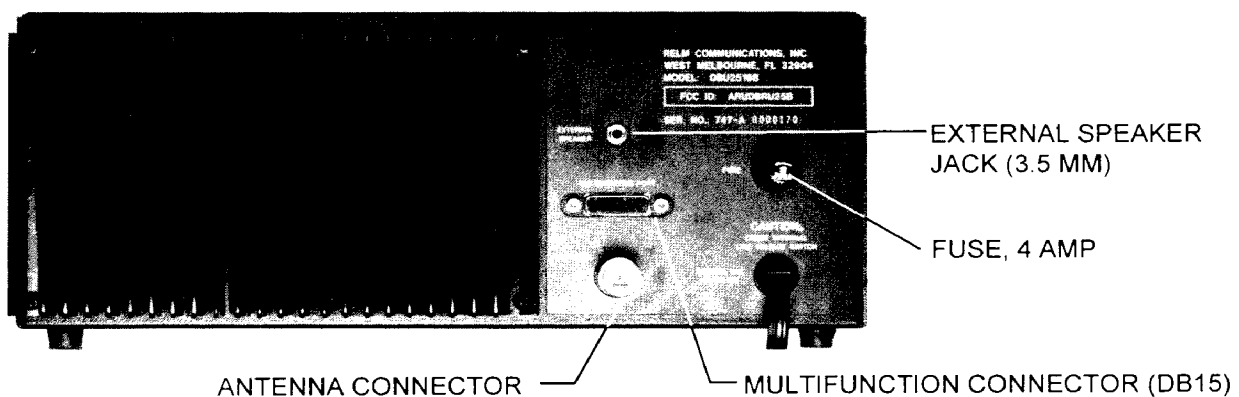

Figure 2. Rear Panel Details.
1. Install the antenna cable on the N type connector. See Figure 2 below.